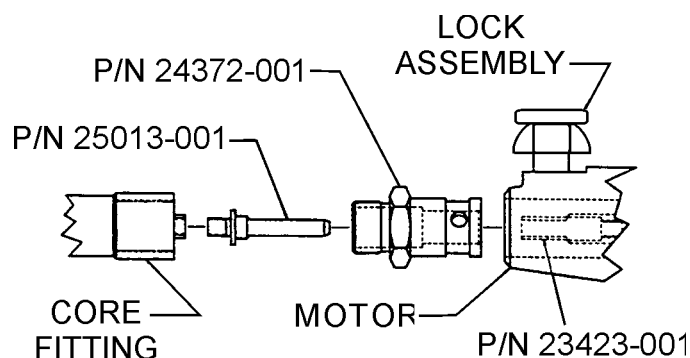

Figure 1. Shafting to Motor Connection (382V Shafting Shown)
3. To connect the flexible shafting to the vibrator motor see (Figure 1). (382V Shafting shown)